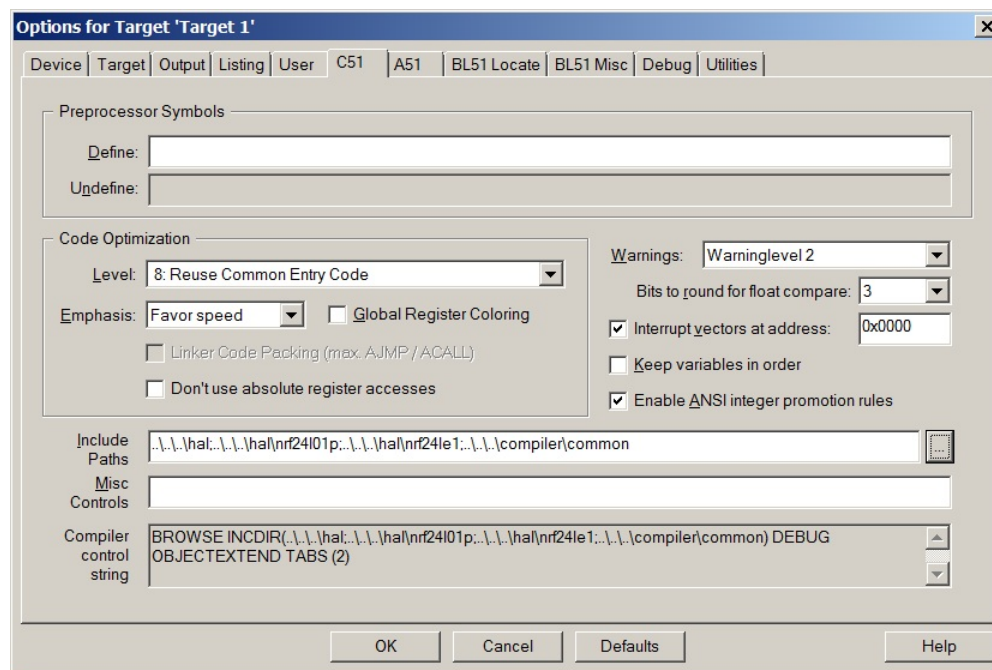

Figure 12. Required paths now included in the project
- Required paths are now included in your project. See Figure 12.